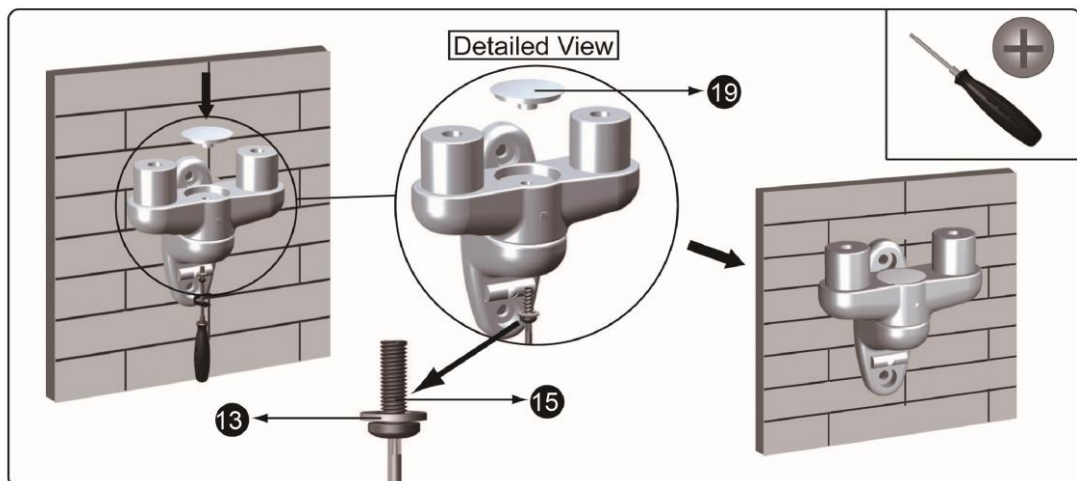

Figure 1-11
6. Place the Cover (19) on the top of the DEK. Place the Phillips Screw M6x12mm (15) through the Plastic Washer M6 (13) and into the bottom of the DEK. Securely tighten with a Phillips screwdriver. Do not over tighten (See Figure 1-11).